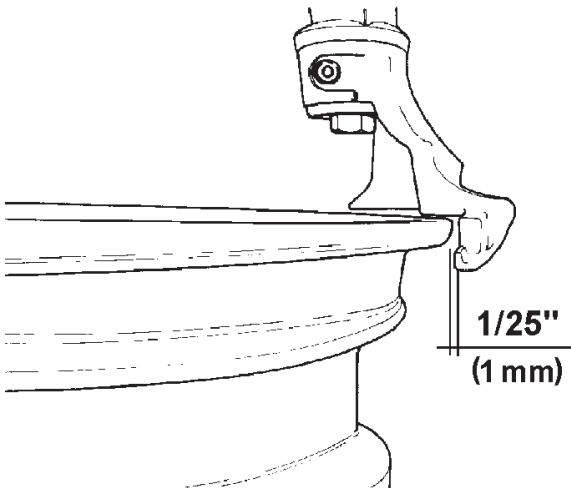

Fig. 4.1-4
E. Gently position the mount/demount head in contact with the rim edge and lock it into place: the tool automatically moves away from the rim edge vertically and horizontally, approximately 1/25" (1 mm): this is necessary to avoid any rim contact during the changing process. (Fig. 4.1-4).